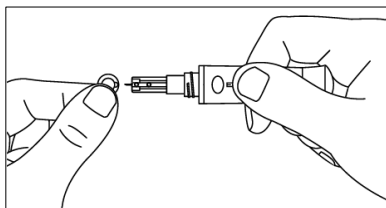

Fig 5.31
**Step 3:** Hold the lancet firmly in the lancet holder and twist the safety cap of the lancet, then pull the safety cap off. Save the safety tab for lancet disposal. (Ref Fig 5.31)